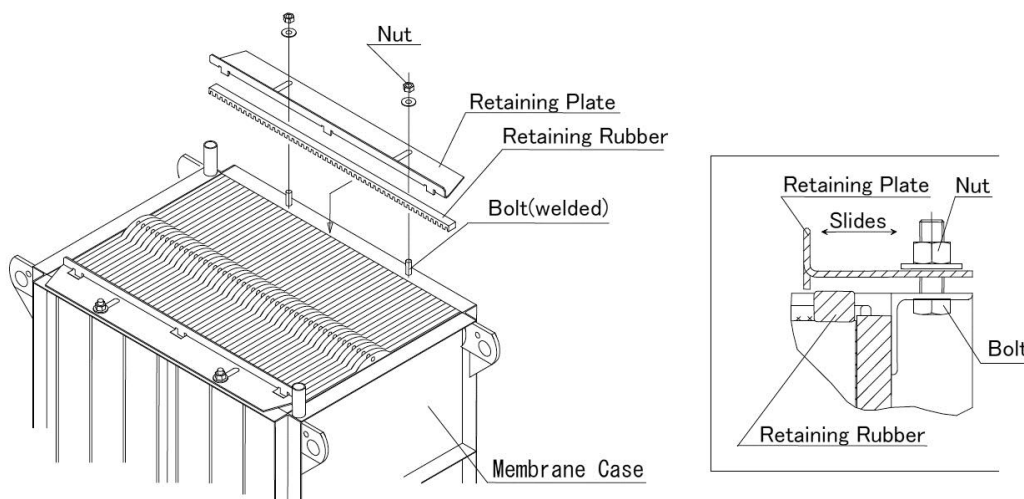

Figure 16 Structure of Retaining Plate and Retaining Rubber
- Loosen the nuts on the Retaining Plate. It is not necessary to remove the nuts completely. Slide the Retaining Plate off the Retaining Rubber see figure 16.
- Set the Retaining Rubber over the Membrane Cartridges see figure 16.